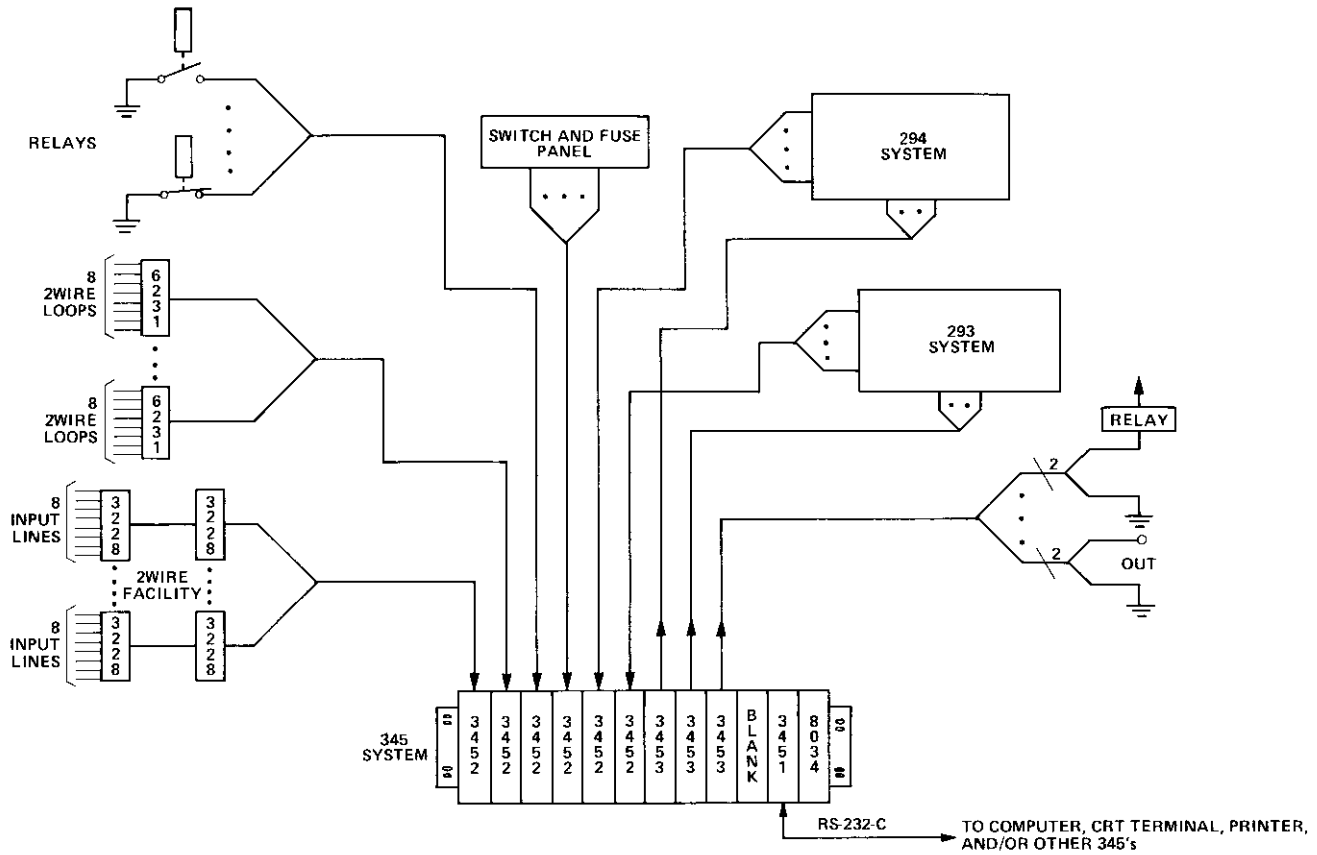

figure 4. 345 System in information input/output application
3.01 The Tellabs 345 SCC System can be used in a wide variety of telemetry and control applications. The System's family of modules and flexible operating software allow it to be custom-tailored to meet specific requirements that depend upon the type of application, the system size, and the operational speed required. Figures 4, 5, and 6 show an information I/O application, a data communication application, and a basic telemetry and control application of the 345 System, respectively. This last application includes switch and fuse-panel monitoring, relay-contact-closure detection, pressure transducer status, and acquisition of data from the Tellabs 3228 Data Set Transmit/Receive Module and the Tellabs 6231 Octal Loop-to-Level Converter Module. Typical output control functions include energizing relay coils and valves, driving indicator circuits such as LED's, lamps, and audio alarms, and supplying output data to the Tellabs 3228 Data Set and 6232 Octal Level-to-Loop Converter Modules. The RS-232-C serial communication port on the SCC permits the System to interface such equipment as CRT terminals, printers, modems, CPU's, and other 345 SCC Systems.